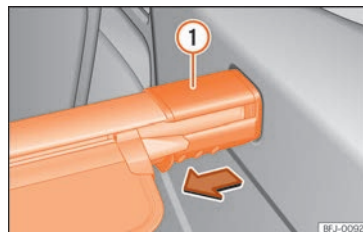

Fig. 153 In the boot: removing the rear shelf.
- Press the support of the cover » **Fig. 153** ① in the direction of the arrow and hold it in this position.
- Remove the cover support » **Fig. 153** ①.
- Press the support of the cover »» **Fig. 153**
① in the direction of the arrow and hold it in this position.
- Remove the cover support »» **Fig. 153** ①.